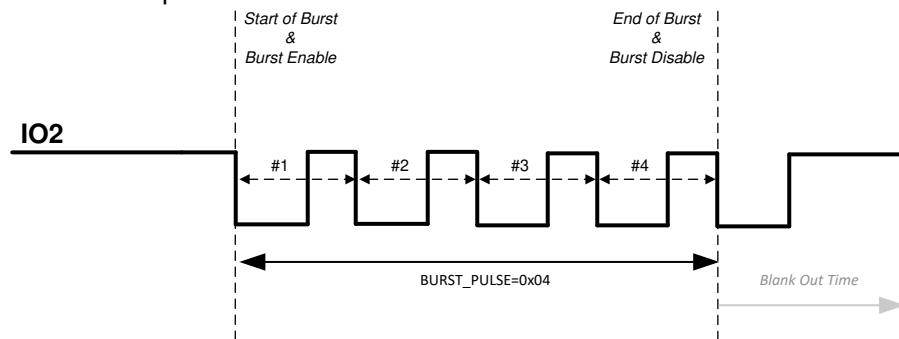

图 7-4. IO_MODE 3 Description
- IO_MODE = 3:** In this mode, burst enable and start of burst are both triggered by the falling edge of IO2. TI recommends that IO2 pin is kept pulled up to VDD for this mode. The device then expects a clock at IO2 pin to generate pulses on the OUTA/OUTB pins (see 图 7-4). The number of pulses are counted by counting falling edge to next falling edge transitions on IO2 once the start of burst is triggered. End of burst sequence is signaled when the number of pulses defined in BURST_PULSE are sent. After end of burst, a blank-out timer interval defined by the DRV_PLS_FLT_DT register is started to prevent triggering of a new start of burst in the event if the IO2 pin is still toggling. After the start of burst, the state of OUTA and OUTB pins are determined by IO1 and IO2 pins.